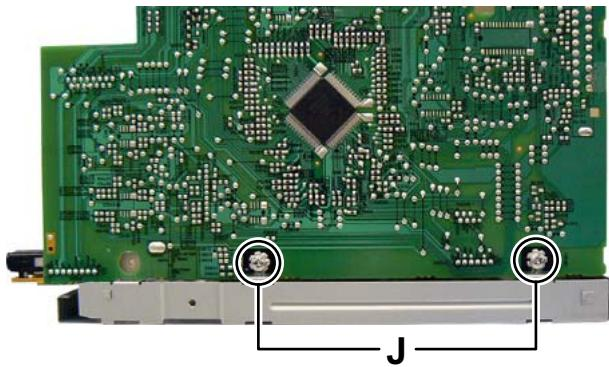

Fig.15
3.1.8 Removing the Micom board (See Fig.15, 16)
- (1) Remove the two screws **J** attaching the Micom board. (See Fig.15)